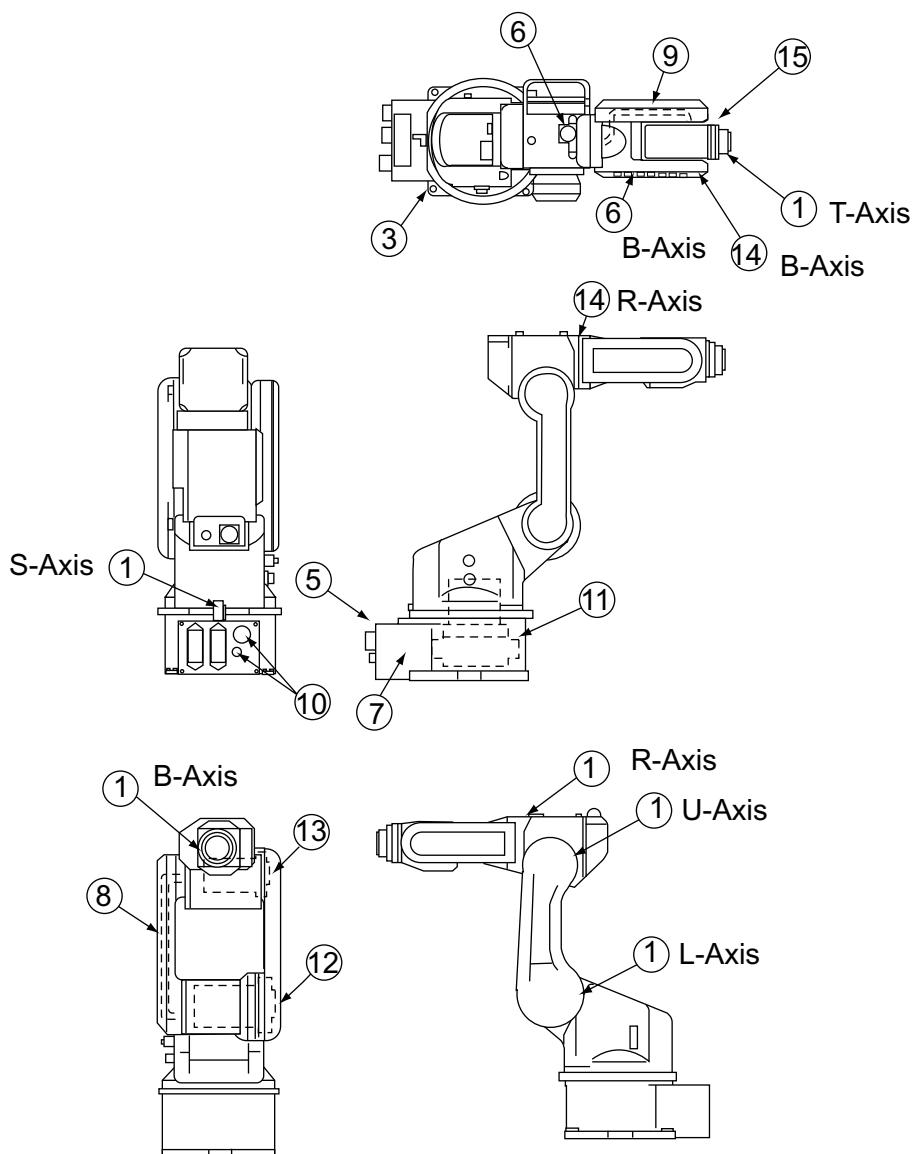

Fig. 21 Inspection Parts and Inspection Numbers
*** 4** Inspection No. correspond to the numbers in " Fig. 21 Inspection Parts and Inspection Numbers ".